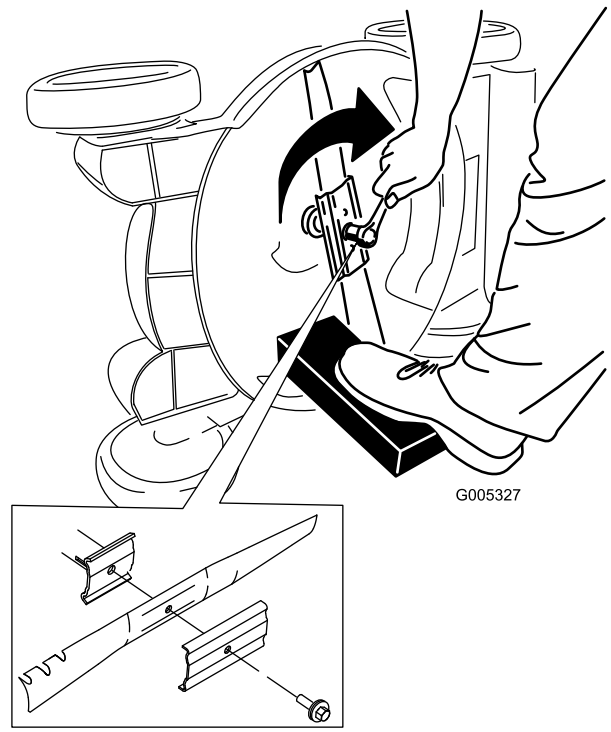

Figure 41
5. Install the new blade and all mounting hardware (Figure 41).